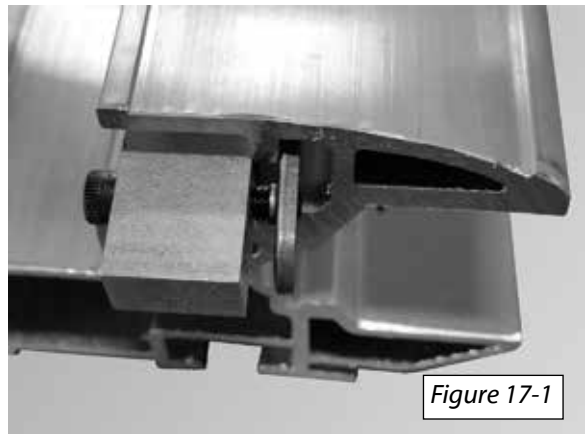

Figure 17-1
**9.** Insert the end stop into the gear rack channel at the lower end of the rail [Figure 17-1]. The final position of the end stop will be determined after the gear rack has been adjusted.